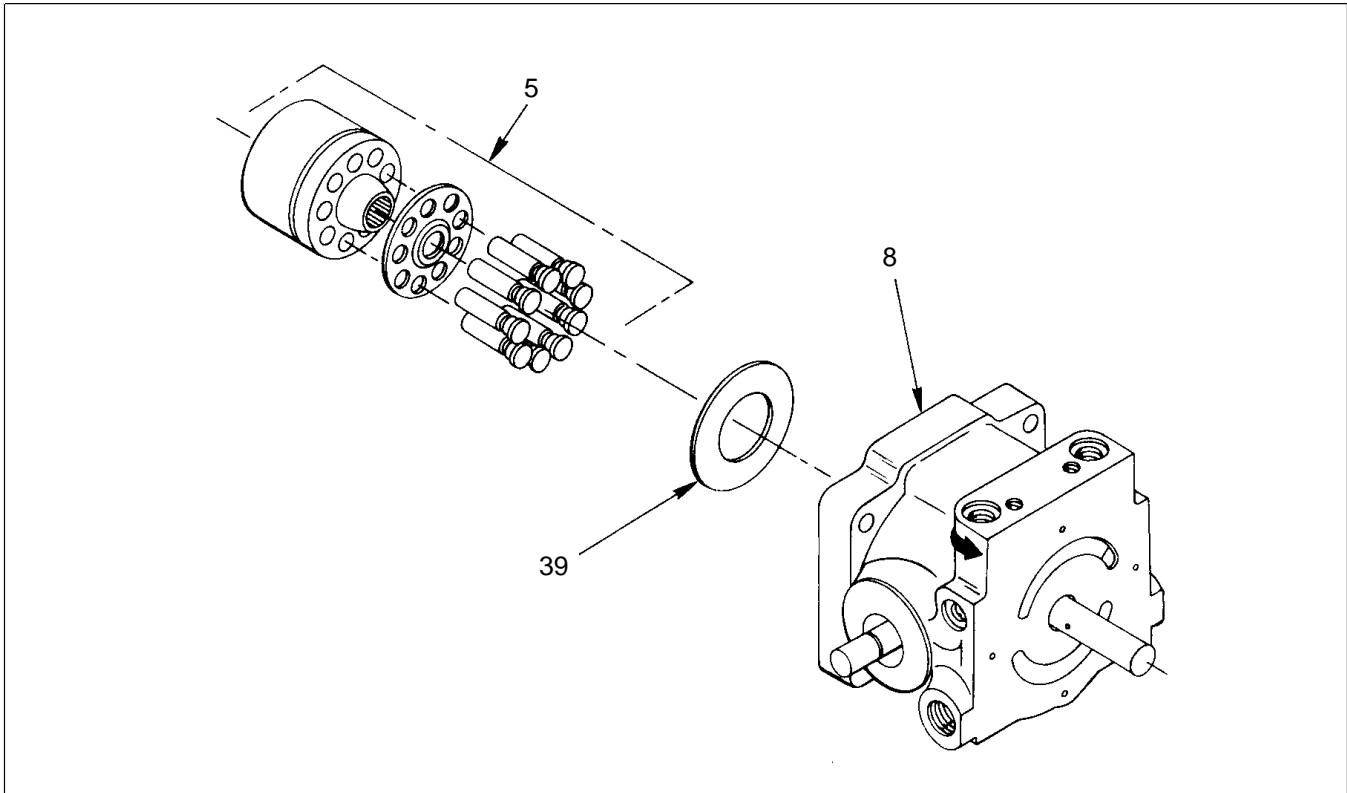

Figure 37
3. Insert the shaft (Figure 37, Item 10) and install seals and thrust bearings. (See Assembly of Shaft and Front Seal Assembly under Main Shaft Seal and/or Shaft Replacement.)